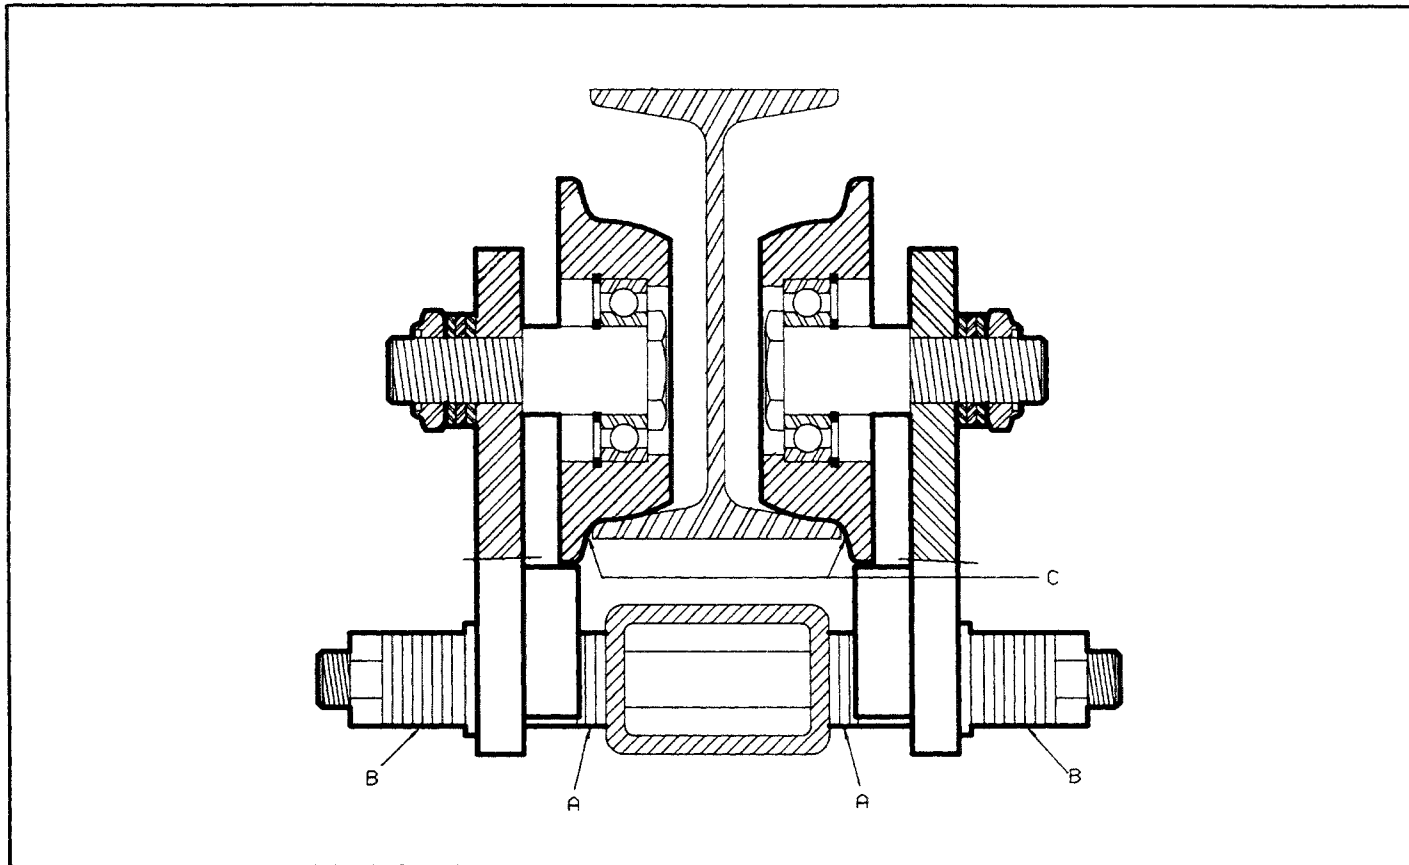

FIGURE 2-1
- "I"-Beam Adjustment.** Adjustment for "I" beam sizes and tolerances is accomplished by locating the spacer washers as shown in Figures 2-1, 2-2, and 2-3. Tables 2-1, 2-2, and 2-3 provide an approximate guide to washer placement. Be sure to use the proper Table, based on lift and trolley-type of the particular installation.
The load pin nuts for the trolleys require a tightening torque of 100 ft. lbs. Refer to Figures 2-1, 2-2, and 2-3 for nut identification.